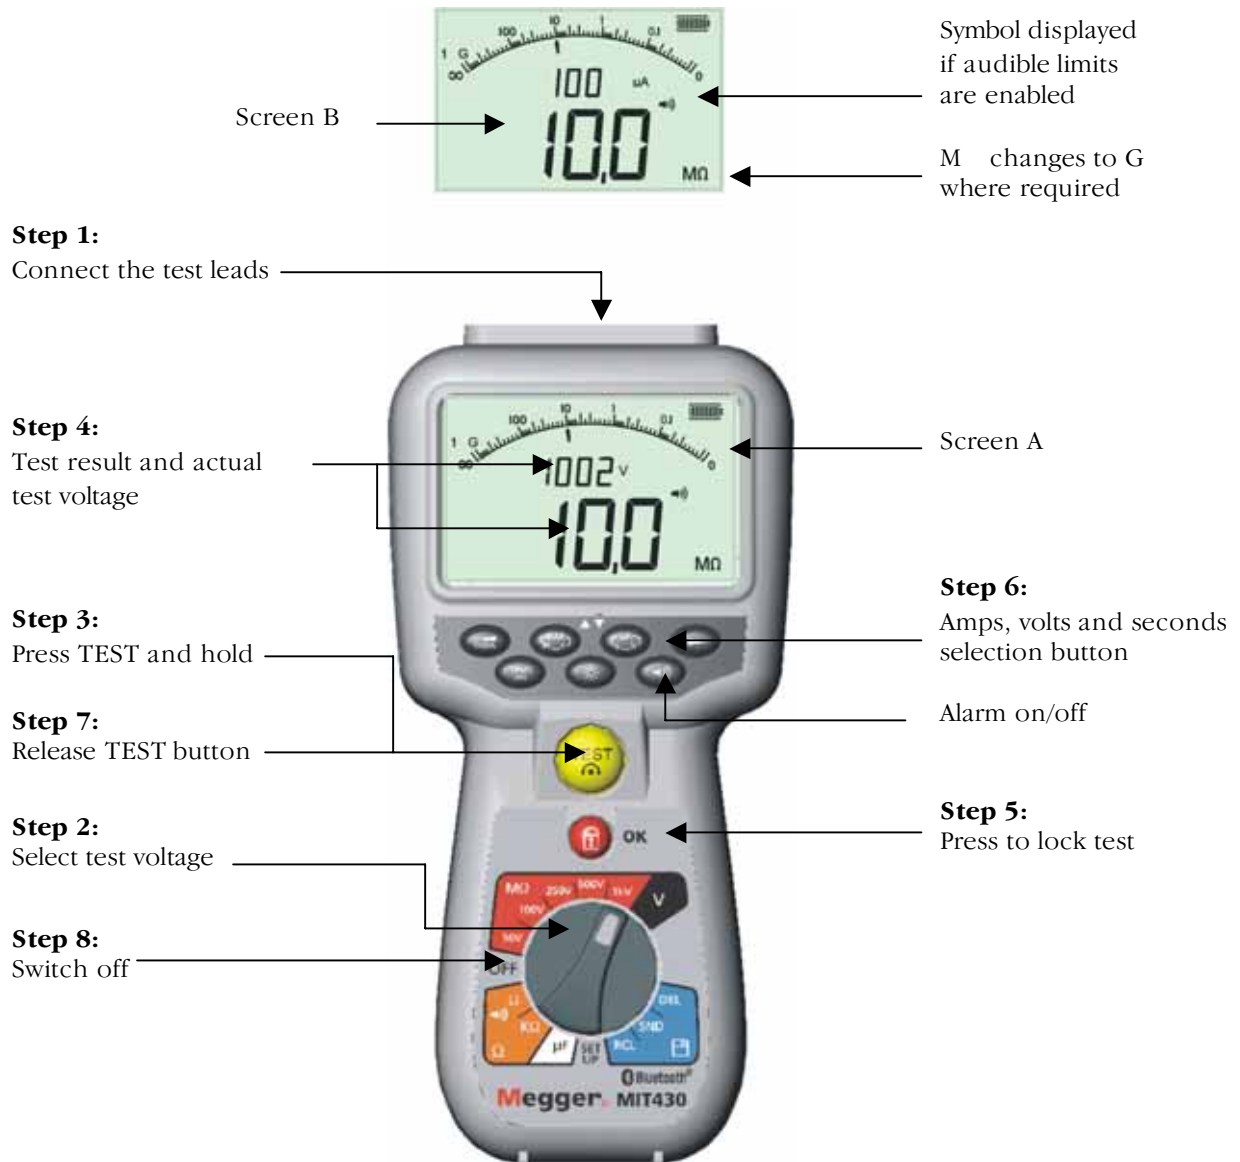

Figure 6 Standard mode insulation test
(Refer to Figure 6)
4. The insulation resistance value, in both analogue and digital form is displayed together with the actual test voltage displayed on the secondary display (see Screen A of figure 6).